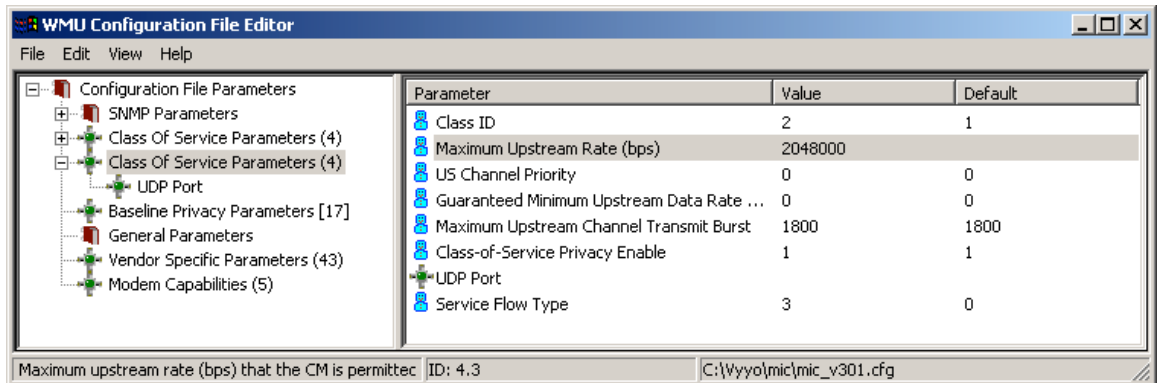

Figure 6-7.
- The display will return to the main window showing the new values set above, as shown in Figure 6-7.